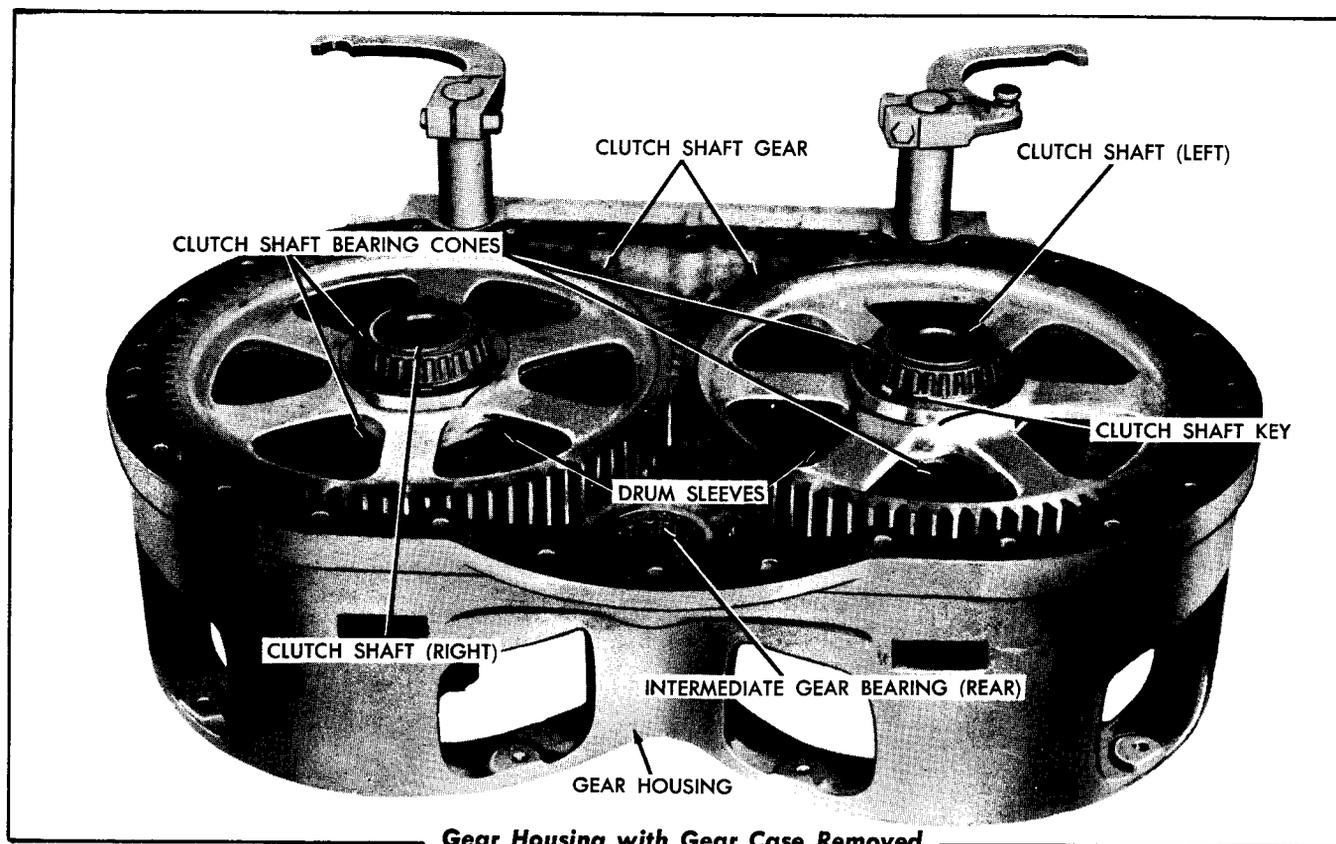
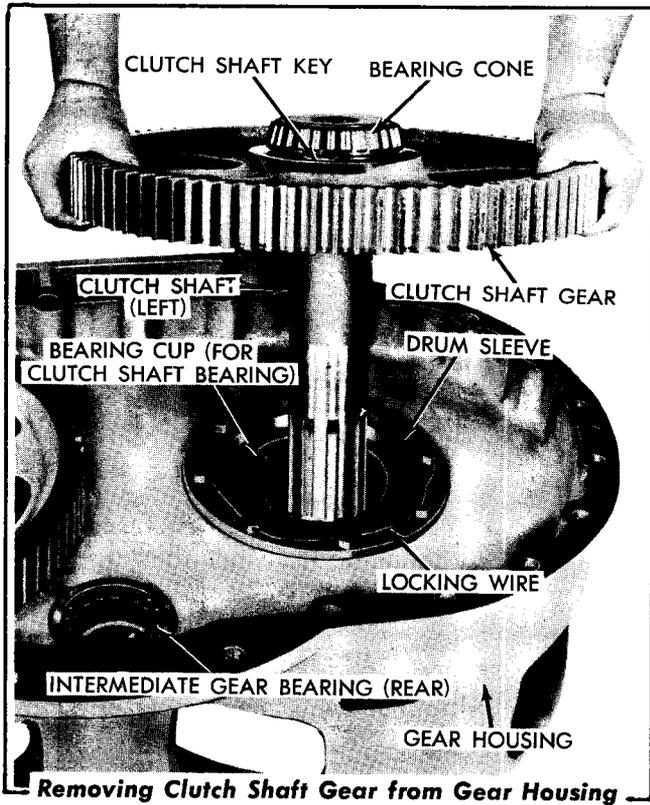

FIG. 35
FIG. 36
16. Refer to Fig. 36 and raise and remove each clutch shaft gear. Remove the locking wire and remove the capscrews attaching each drum sleeve to the gear housing. Remove the drum sleeves from the gear housing.
2. Install each drum sleeve (Fig. 36) in position in the gear housing. Secure each sleeve to the housing with 8 drilled-head capscrews. Lock the capscrews with locking wire.
3. Install the intermediate gear bearing (rear) in position in the bore of the gear housing (Fig. 36), if the bearing has been removed.
4. Install a key in the keyway of each clutch shaft and press a clutch shaft gear (Fig. 36) in position on each shaft, if the gears have been removed. Install the two clutch shaft bearing cones in position on each clutch shaft (Fig. 35), if the cones have been removed. Lubricate the bearing cones and the clutch